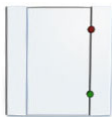

Fig. 7 : Reader unit
-top (see Fig.7: Reader unit)
-bottom (see Fig.7: Reader unit)